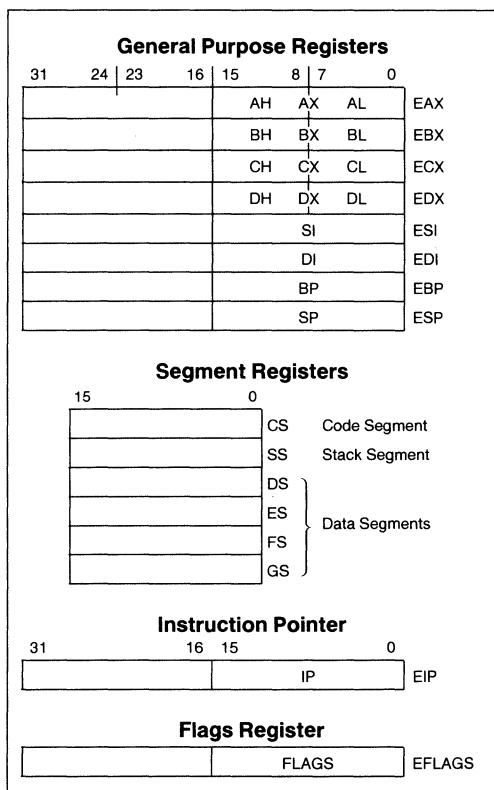

Figure 2.1. Base Architecture Registers
Figure 2.1 shows the 486 microprocessor base architecture registers. The contents of these registers are task-specific and are automatically loaded with a new context upon a task switch operation.
The eight 32-bit general purpose registers are shown in Figure 2.1. These registers hold data or address quantities. The general purpose registers can support data operands of 1, 8, 16 and 32 bits, and bit fields of 1 to 32 bits. Address operands of 16 and 32 bits are supported. The 32-bit registers are named EAX, EBX, ECX, EDX, ESI, EDI, EBP and ESP.
The instruction pointer, shown in Figure 2.1, is a 32-bit register named EIP. EIP holds the offset of the next instruction to be executed. The offset is always relative to the base of the code segment (CS). The lower 16 bits (bits 0–15) of the EIP contain the 16-bit instruction pointer named IP, which is used for 16-bit addressing.